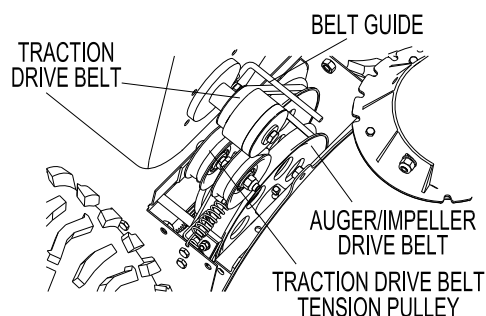

FIG 29
6.11.2 Remove the auger/impeller drive belt. (FIG 29)
6.11.3 Loosen the traction drive belt tension pulley. (FIG 29)
6.11.4 Remove the traction drive belt. (FIG 29)